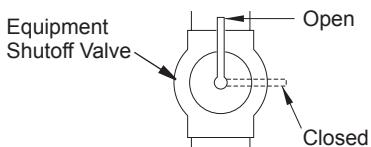

Figure 14 - Equipment Shutoff Valve
For propane/LP gas, the installer must supply an external regulator. The external regulator will reduce incoming gas pressure. You must reduce incoming gas pressure to between 11" and 14" W.C.. If you do not reduce incoming gas pressure, heater regulator damage could occur. Install the external regulator with the vent pointing down as shown in Figure 14. Pointing the vent down protects it from freezing rain or sleet.
1. Close equipment shutoff valve (see Figure 14).
1. Open equipment shutoff valve (see Figure 14).
3. Close equipment shutoff valve (see Figure 14, page 12).